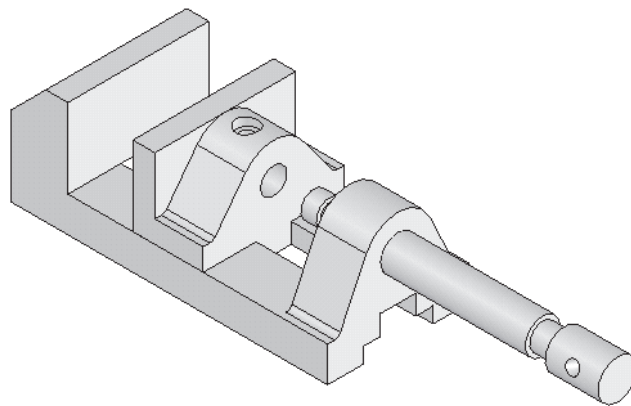

Figure 12-63 The **Concentric** mate applied between the Jaw Screw and the Vice Body
7. Release the left mouse button at this location; the **Mate** pop-up toolbar is displayed and the **Concentric** button is chosen by default, which suggests that the **Concentric** mate is the most appropriate mate to be applied. Choose the **Add/Finish Mate** button from the **Mate** pop-up toolbar. Figure 12-63 shows the Jaw Screw assembled in the Vice Body.